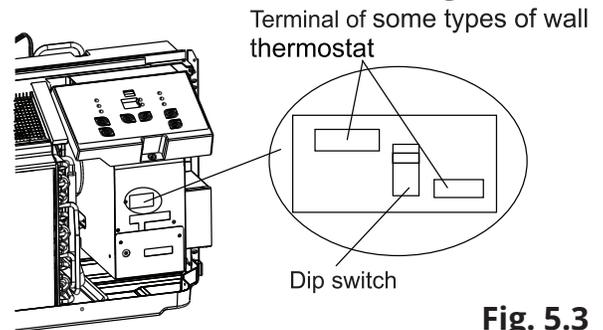

Fig. 5.3
- Insert the wire connector of the wall thermostat into the corresponding terminal as shown below. The correct terminal to use is dependent upon the shape of the wall thermostat connector. Refer to Fig. 5.3.